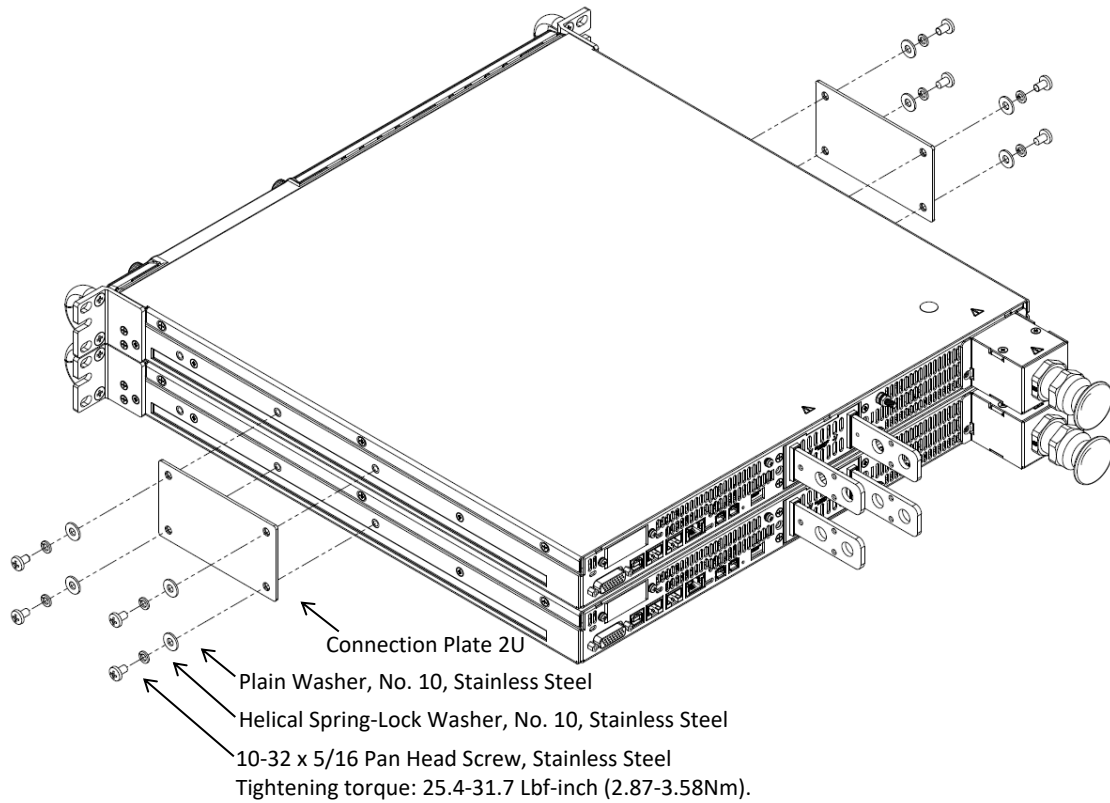

Figure 8: Two 20V-40V Units Connection Plates 2U Assembly
1. Attach connection plates, one on each side of the power supplies, using eight pan head screws, eight helical spring-lock washers and eight plain washers as illustrated in Figure 8.